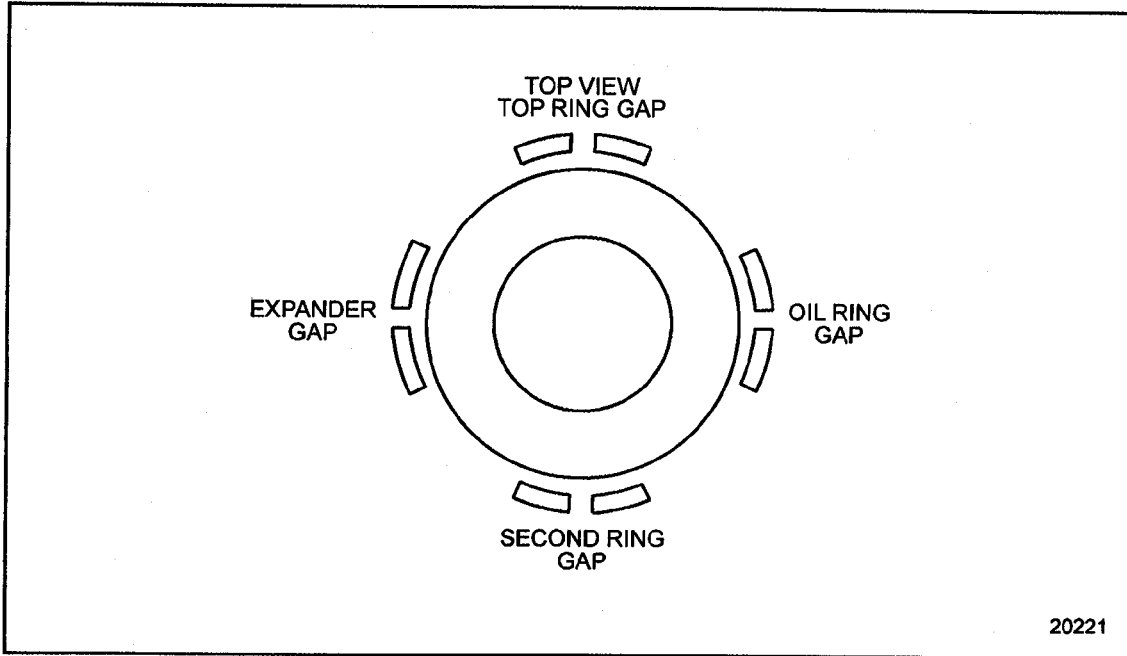
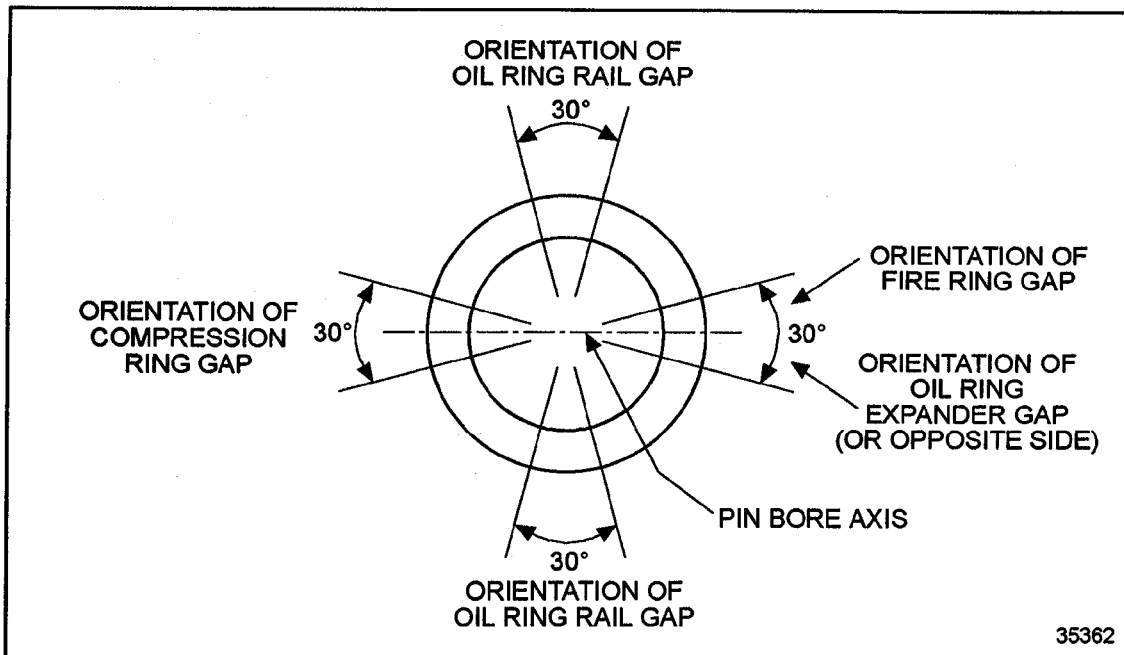

Figure 1-263 Piston Ring Positioning (Diesel)
Figure 1-264 Piston Ring Positioning (Natural Gas)
- Remove assembly from pan and position (stagger) the piston ring gaps properly on the piston at 90 degree intervals. See Figure 1-263 for diesel engines and see Figure 1-264 for natural gas engines.